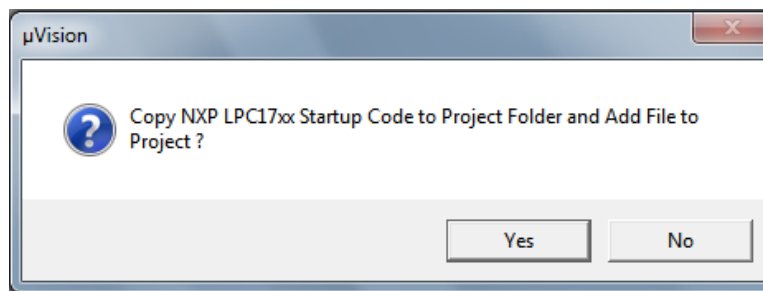

Figure 8.3: Keil IDE: Copy Startup Code
- Answer “Yes” to copy the startup code (See Figure 8.3).